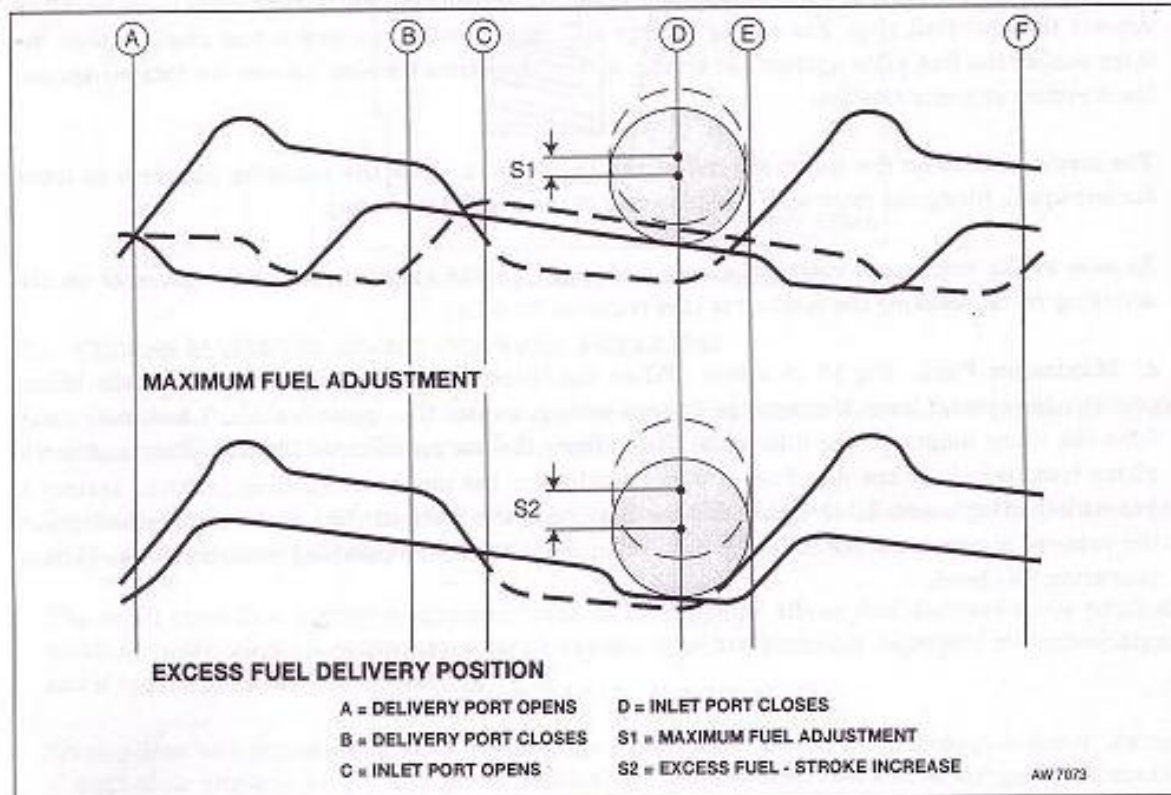

Fig 15.16 Schematic Diagram - Scroll and Cam Phasing
c. **Maximum Fuel.** Fig 15.16 refers. When the throttle lever is moved away from the idling position, the control lever, through the linkage spring, rotates the excess fuel shaft and lever away from the inner tongue of the link plate. This allows the spring to move the link plate and scroll plates transversely in the direction of pump rotation to the maximum fuelling position, against a pre-set adjusting screw. In this position, the profiles of the internal rims of the scroll plates check the outward movement of the rollers and shoes, in contact with the pumping plungers, to the normal maximum fuel level.